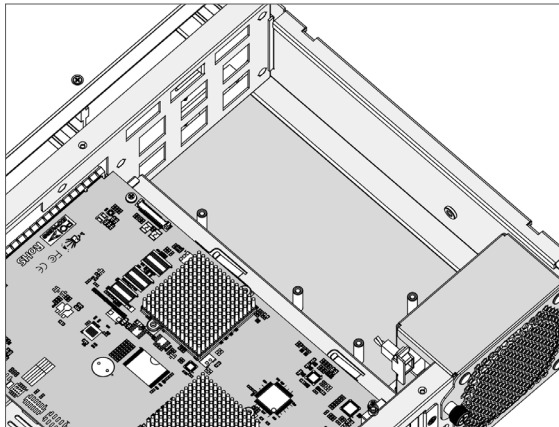

Figure C-2, Removing the Cover
1. Loosen the screws and remove the cover from the ARC-7208/ ARC-7212 enclosure, as shown in Figure C-2.